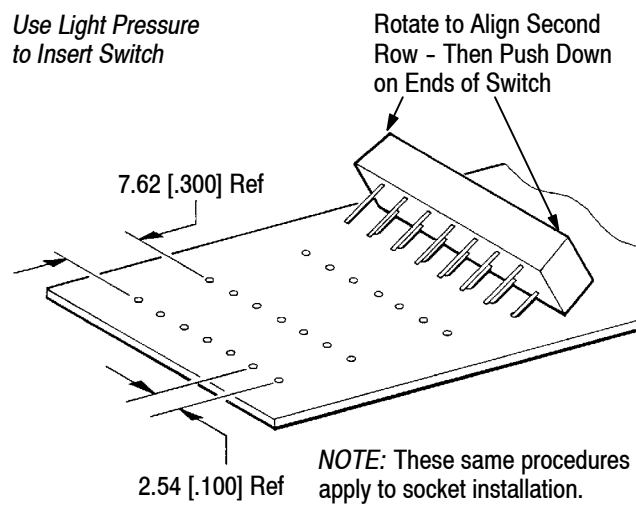

Figure 4
1. Make a layout on the pc board according to the dimensions shown in Figure 4.